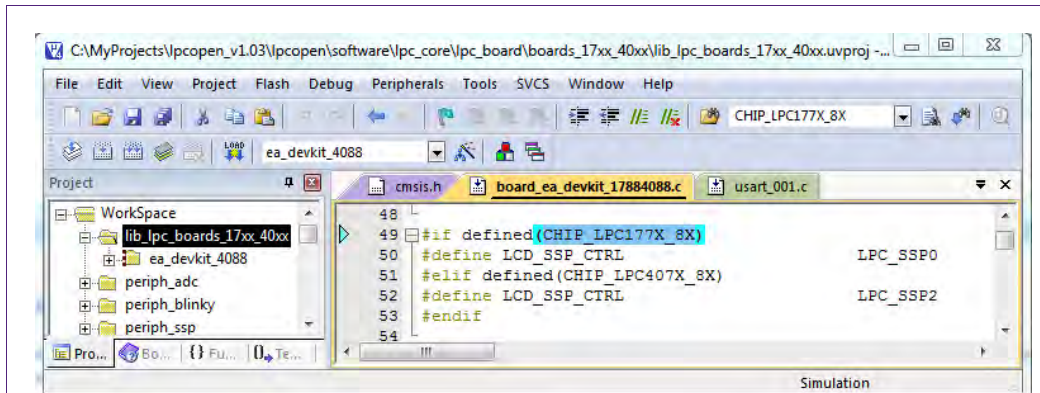

Fig 20. Switching between LPC1788 and LPC4088 on EA development board for SSP communication
In the sample projects, the LPCOpen platform uses CHIP_LPC177X_8X and CHIP_LPC407X_8X to pick the proper hardware configuration. Fig 20 is an example of such handling used in board_ea_devkit_17884088.c for SSP communication port selection as requested from the hardware difference item 2 shown in Fig 19.